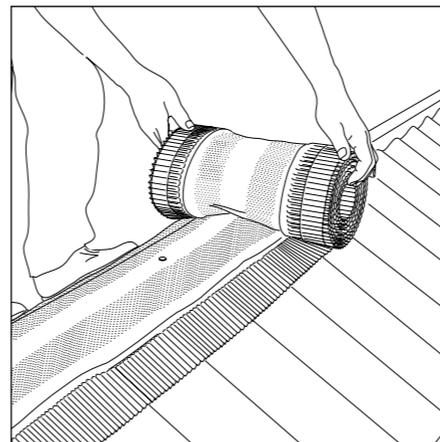

Fig 4
- 4 Unroll RidgeFast roll centrally along entire length of ridge batten and fix at approximately 2 metre centres to ridge batten using felt nails. Overlap roll ends by 100mm at each joint. At gable ends, roll should be able to lap over the edge of gable tile/verge finish by approximately 50mm (where a bedded verge is used it should be cut back by 50mm) (Fig. 4).